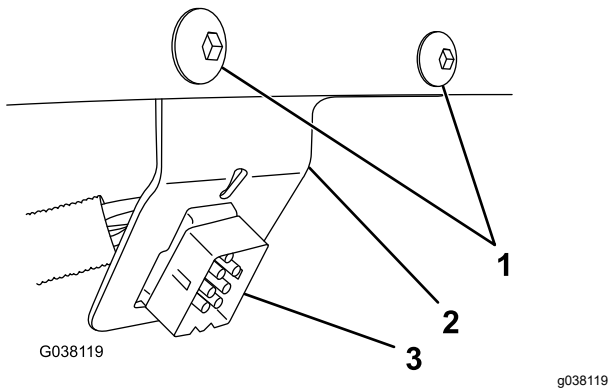

Figure 7
7. Pull the plow controller connector into the vehicle cab (Figure 7).
- 8. Mount the plow controller connector to the dash bracket, and secure the bracket to the left of the steering wheel using 2 self-tapping bolts (Figure 7).